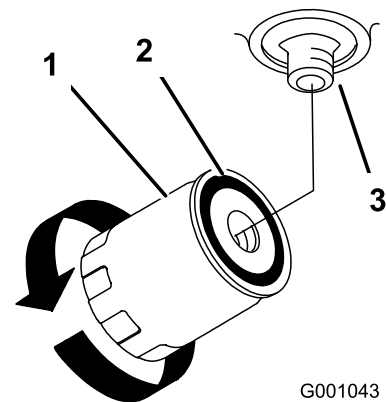

Figure 67
- Apply a thin coat hydro fluid to the rubber gasket on the replacement filter (Figure 67).
- Fill the hydraulic tank with hydraulic fluid until the fluid overflows the filter and then turn the oil filter clockwise until the rubber gasket contacts the filter adapter, then tighten the filter an additional 1/2 turn (Figure 67).